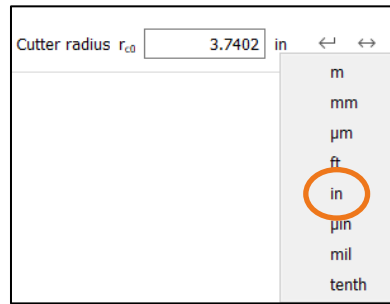

Figure 15. Switching the unit to «inch»
7. In the «**Process**» tab, select «**Face milling (single indexing method)**» as the manufacturing process and then input the «Cutter radius». We recommend you use the sizing function  to the right of the «Cutter radius» input field to get a suggested value for the minimum cutter tip size (in accordance with Klingelnberg «Bevel gears», page 70) and then enter the cutter tip radius that was actually used, from Production. Click the right-hand mouse button to select the unit «inch»: this is usually used for Gleason cutters (see Figure 15).